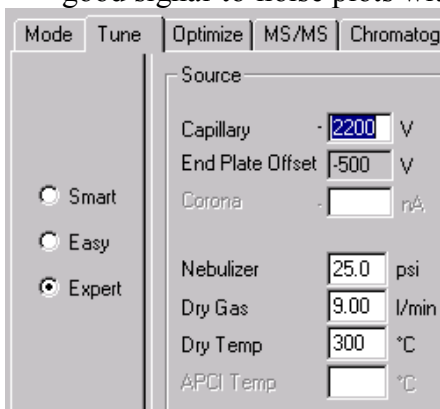
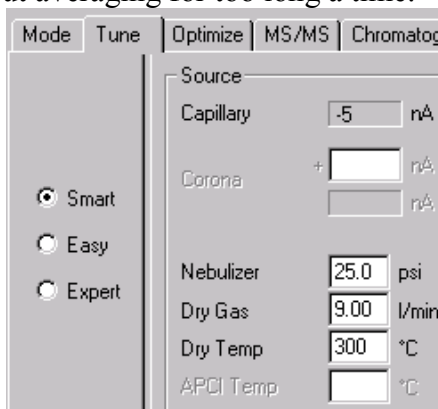
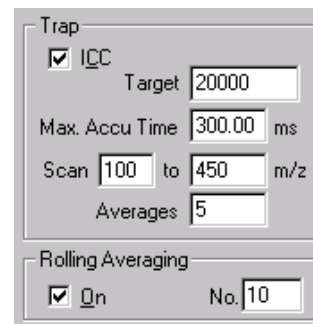

Figure 2. The capillary voltage.
Figure 3. Source settings
Figure 4. Rolling Averages
3. The *CH141Cr.m* method should already be started when you get to the MS. Select the *Tune* tab, Figure 2, and the *Expert* mode. Verify that the capillary voltage is 2200V. Switch to the *Smart* mode and verify the source settings as in Figure 3. Check the MS scan range and Rolling Averaging as shown in Figure 4. The 10 rolling averages will give good signal-to-noise plots without averaging for too long a time.